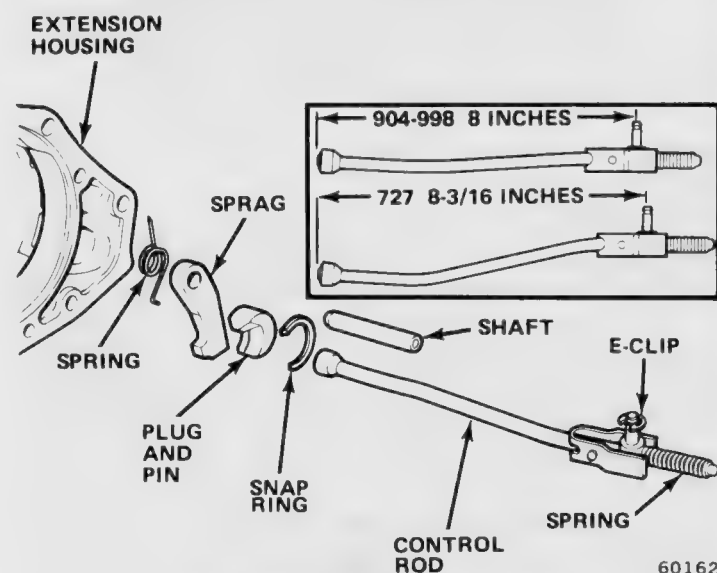

Fig. 2C-26 Park Lock Components
- (1) Install reaction plug and pin assembly in housing and install snap ring (fig. 2C-26).
- (2) Position sprag and spring in housing and install shaft. Be sure square lug on sprag is facing park gear and that spring is positioned so it moves sprag away from gear.
- (3) Install extension housing as outlined in Governor Valve.